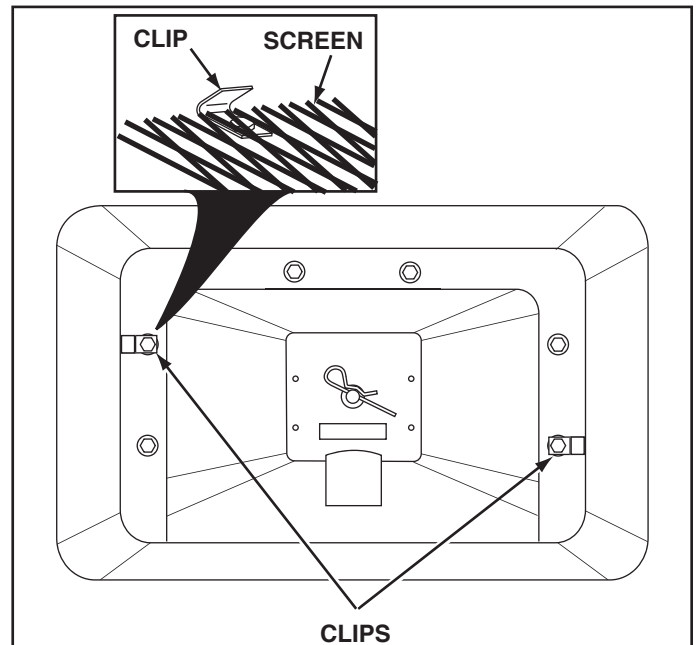

FIGURE 14
25. Place the screen down into the hopper, sliding the edge of the screen under one of the clips. Slightly bow the screen to slide the opposite side of the screen under the other clip. See figure 14.